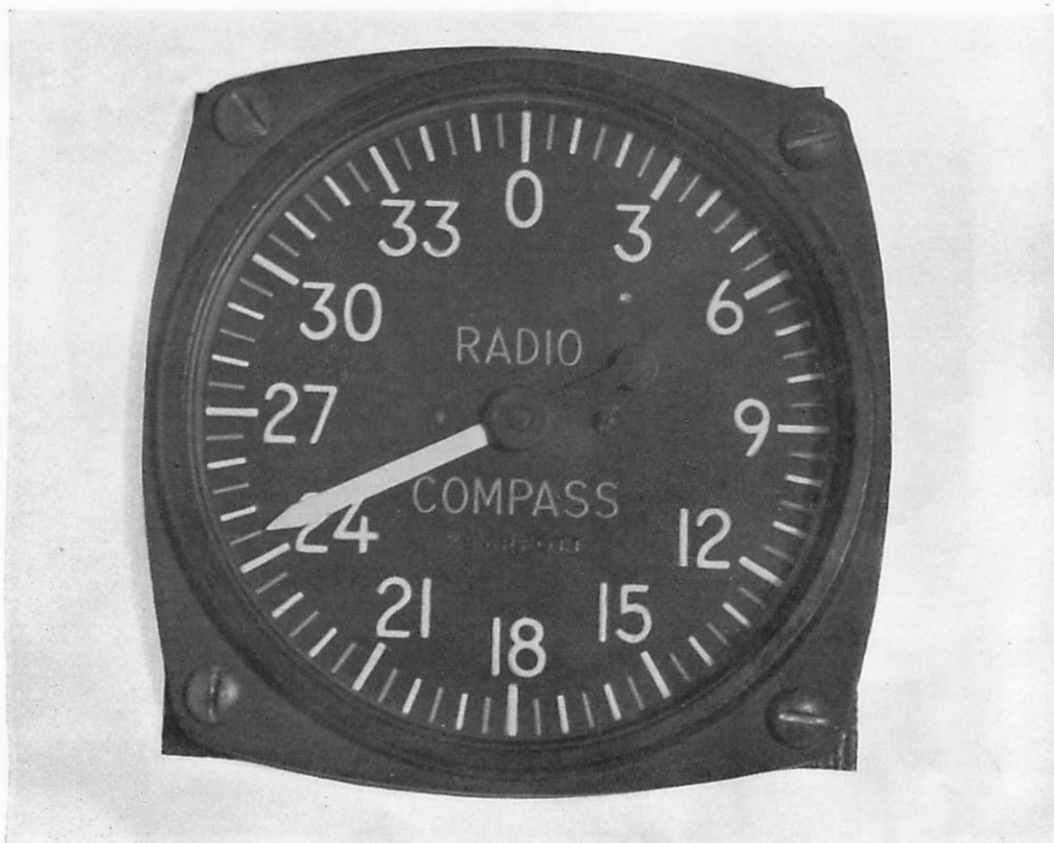
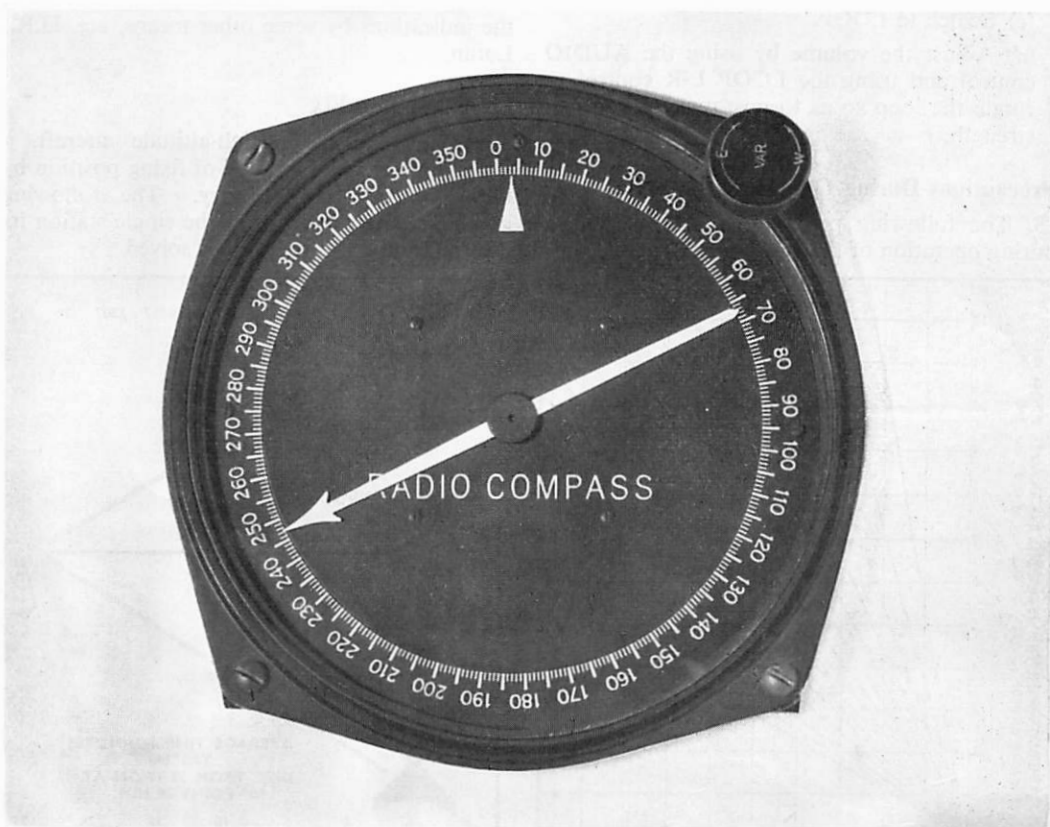

Fig. 6. Radio Compass (S.C.R. 269G) Pilot's Indicator.
Fig. 7. Radio Compass (S.C.R. 269G) Navigator's Indicator.
22. **Bearing Indicators.** The pilot's bearing indicator (Fig. 6) is a direct-reading instrument, but variation may be set on the navigator's bearing indicator (Fig. 7) in order to read true bearings.